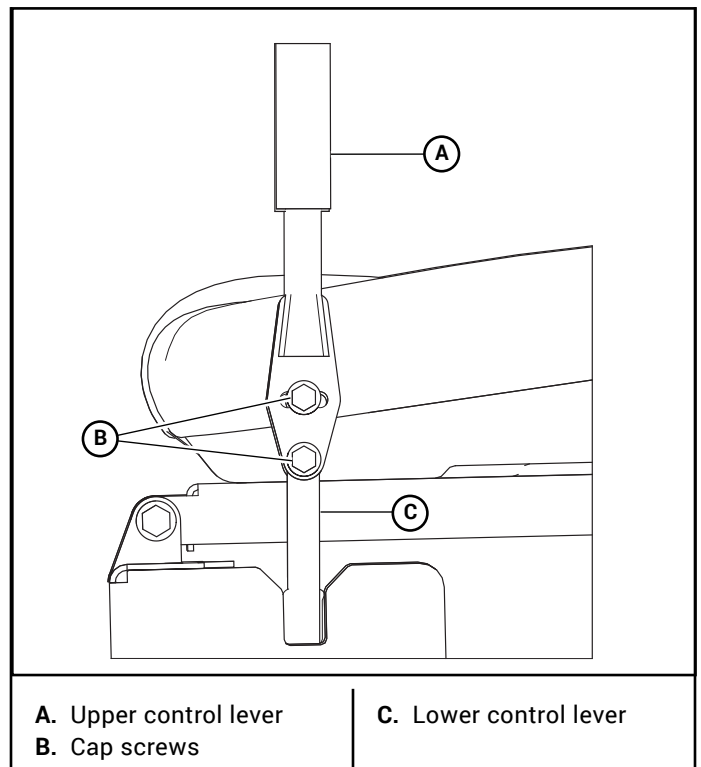

Figure 4-11
- A. To pivot the upper control levers forward or rearward, loosen the cap screws that attach the upper control lever to the lower lever. Then, pivot the upper control lever. Tighten the cap screws. Figure 4-11